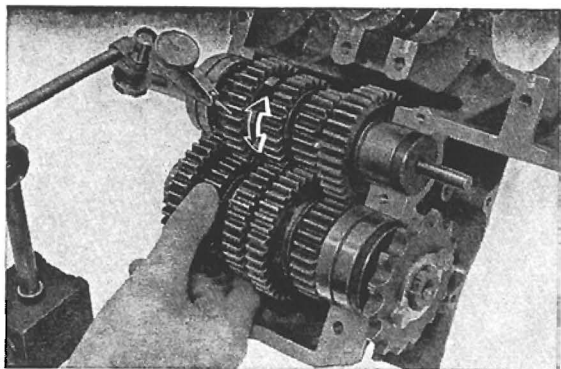

Fig. 3.112 Measuring gear backlash
① Countershaft outside diameter
3. Backlash (Fig. 3.112)